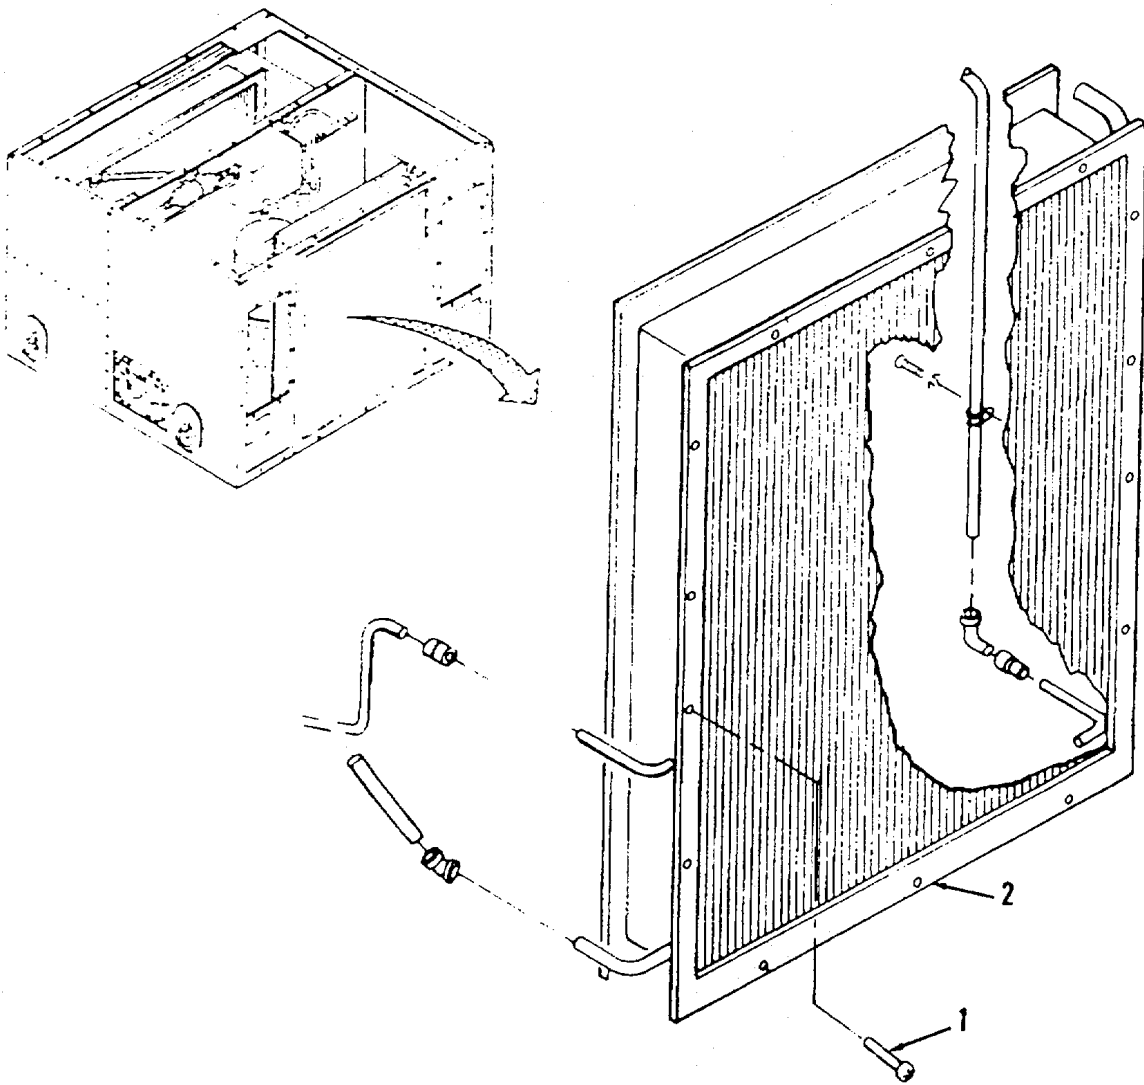

Figure 4-25. Condenser Coil.
**a. Removal.** (Refer to Figure 4-25).
- (1) Remove five screws (1) from unit.
- (2) Remove condenser coil (2) from unit.